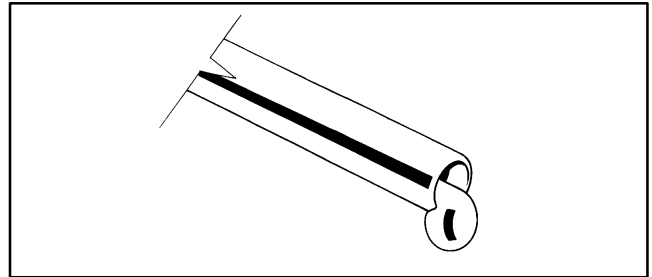

Figure 5-11 Fuel Drop
6. Obtain the correct fuel starting delivery point when the plunger has reached and closed the injection pump's allen head screw's hole and only a drop of fuel comes out from the tube every second. See Figure 5-11.